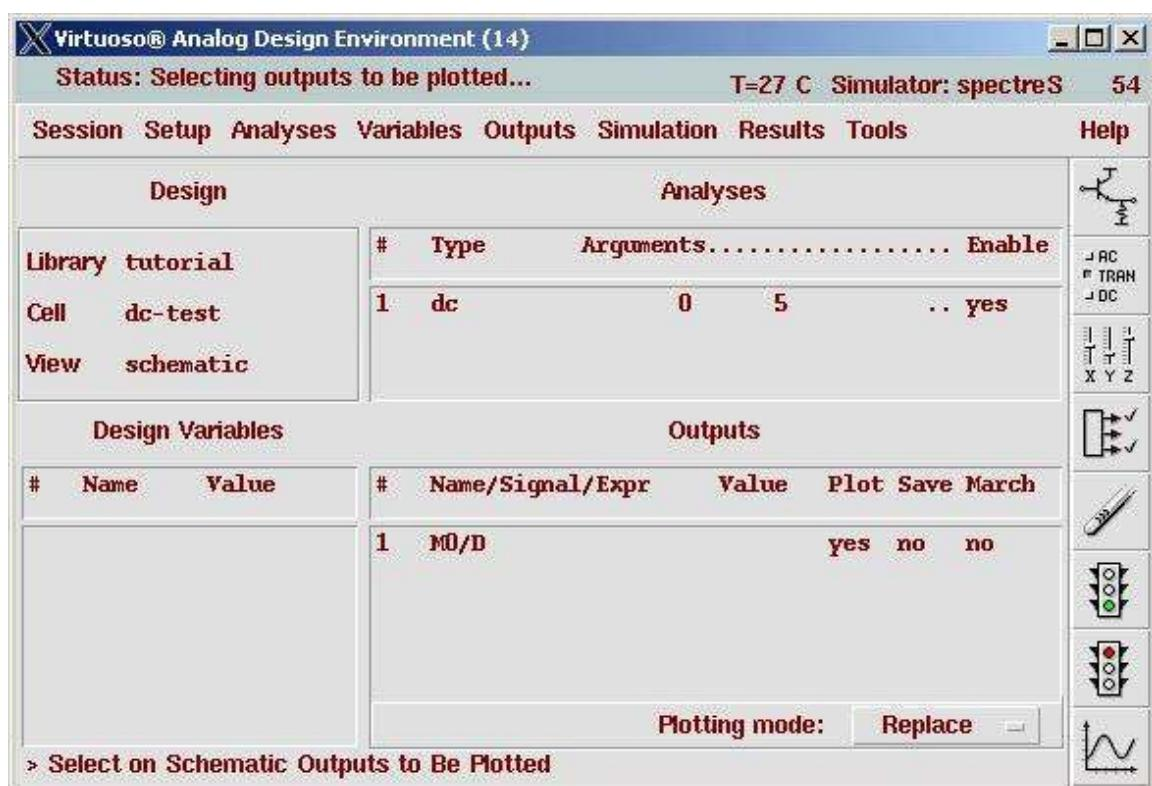

Figure 6.31: Analog Environment dialog box for DC analysis
7. Back in the Analog Environment you need to select the outputs to be plotted. Use the same **Select on Schematic** choice that you've used before, but instead of selecting a wire, select the red square on the drain of the **nmos** transistor (the top leg of transistor M0 in Figure 6.28 - the one without the arrow). This will cause a circle to be put around the drain, and the drain current will be plotted. This shows up as **M0/D** for the output in my circuit (**M0** is the transistor identifier, and **D** is the drain current). The **Analog Environment** dialog box should look like Figure 6.31 when you're done.